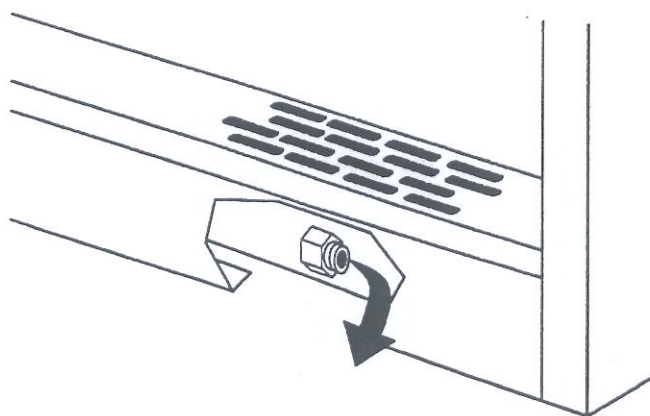
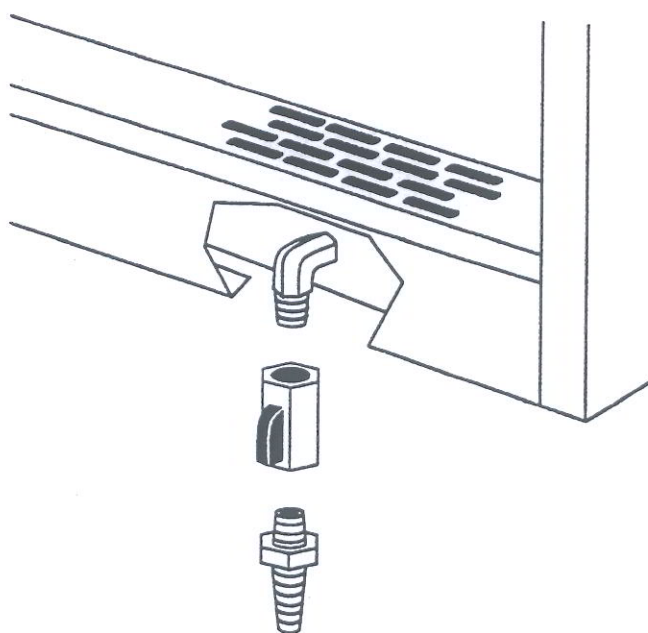

Figure 11A
Figure 11B
1. The brass outlet elbow is located in the lower right front of the unit, behind the lower trim panel, as shown in Figure 11A.
2. The Purifier is shipped with the drain outlet elbow in a horizontal position, as shown in Figure 11A. Turn the drain outlet elbow clockwise until it is pointing straight down as shown in Figure 11B. There is no need to remove the lower front trim panel, as there is an access hole in this panel, just beneath the outlet.
3. Assemble the valve and drain barb as shown in Figure 11B. Orient the drain valve so that the handle is facing the front of the unit.